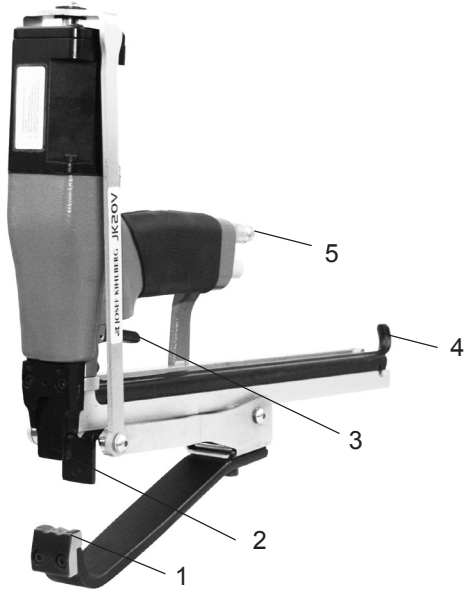

Fig. 1
2. then pull the trigger (Fig.1/3).